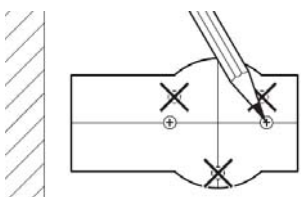

Figure 12:
4. Use a plumb line and the provided template to center the floor plate with the top pivot. Mark the hole locations of the floor plate with a pencil (Figure 12).